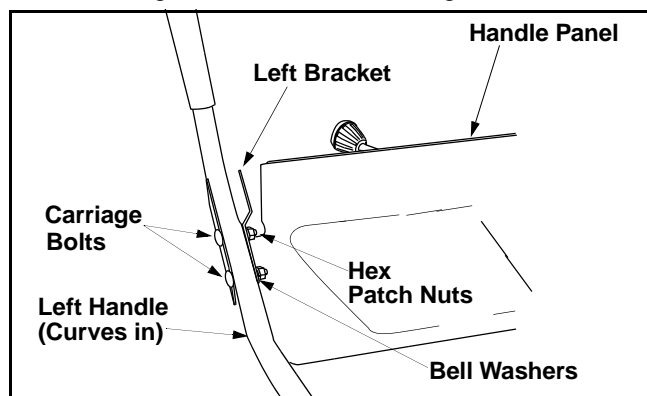

Figure 5
- Attach left handle and left clutch bracket to handle panel with two carriage bolts, cupped washers and hex patch nuts. (Be sure the bend in the grip bracket is towards the center of the handle panel.) Do not tighten at this time. See Figure 5.